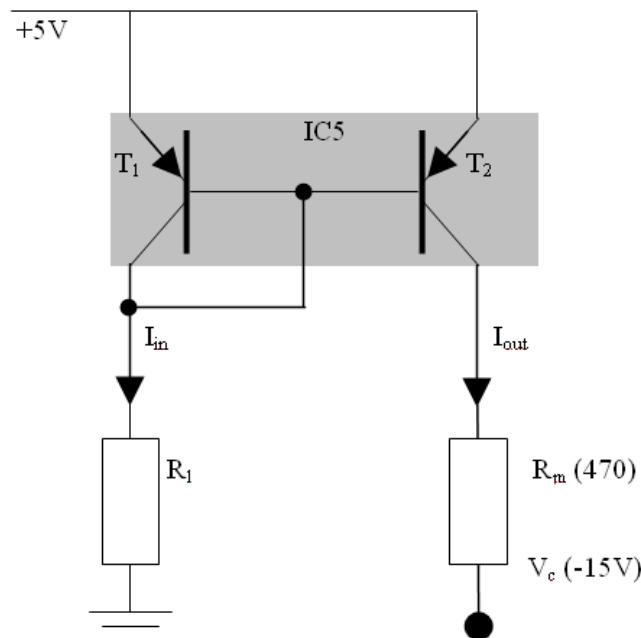
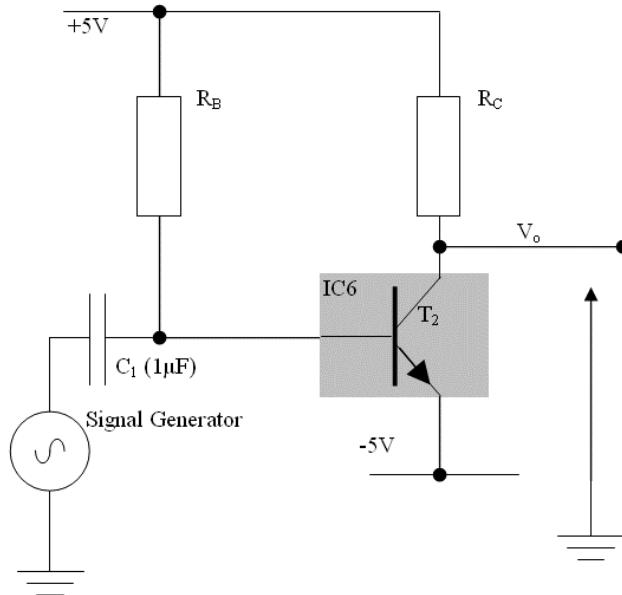
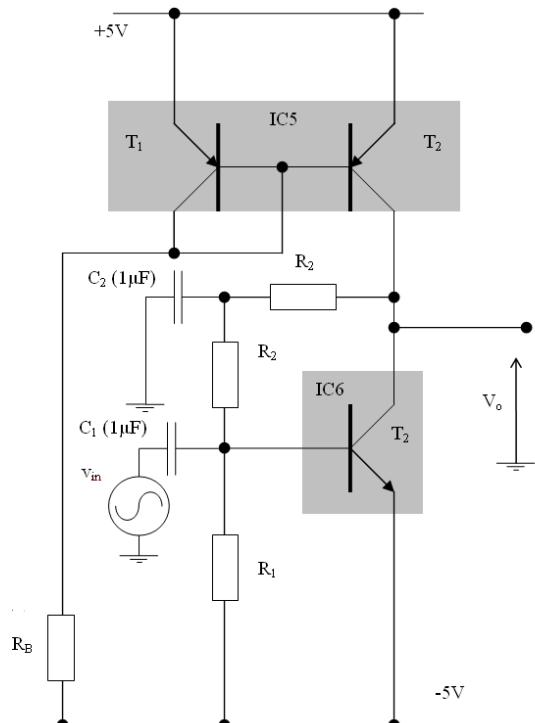

Figure 5 Implementation of simple current mirror
Figure 7 Common emitter circuit
Figure 9 CE stage with active load
Diode-connected transistor  $T_{1(5)}$  (see Figure 5) fixes the base-emitter voltage of  $T_{2(5)}$ . The collector-base connection of  $T_{1(5)}$  is necessary to ensure that both  $T_{1(5)}$  and  $T_{2(5)}$  get their required base current, as mentioned earlier.
In op-amp design, it is desirable to have a high voltage gain from a single amplifier stage. The most common configuration of a high gain voltage amplifier is the common emitter (CE) configuration (the emitter being the common point to input and output voltages). In fact, the CE stage is the only single transistor configuration that gives high voltage and high current gain simultaneously. Figure 7 shows a simple common emitter amplifier, together with associated biasing circuitry.
- In a fresh schematic, simulate the CE amplifier (Figure 7). Make sure that you have set the -5V rail. Check that all DC levels of the amplifier are as you expect.
- Copy your previous circuit to a new schematic and replace  $R_C$  (Figure 7) in the single stage CE voltage amplifier, with the collector output of transistor  $T_{2(5)}$  in the simple current mirror design (from section 5) as shown in Figure 9.
- Note that now  $R_1$  (Figure 5), has been replaced by a resistor with a terminal connected to the -5V rail ( $R_B$  in Figure 9). Choose  $R_B$  to obtain an input current (into IC5) of 1 mA.